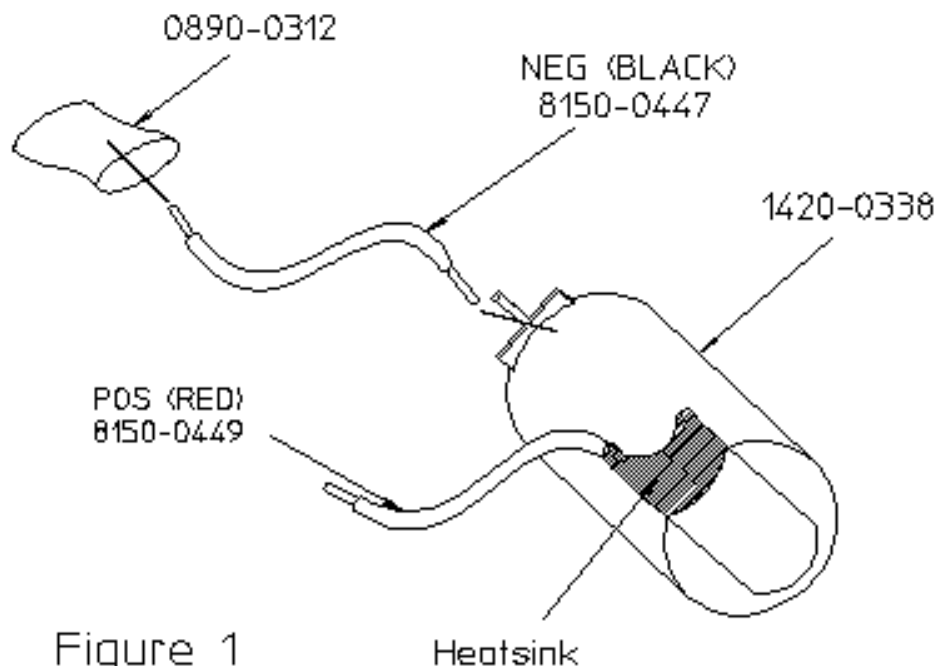
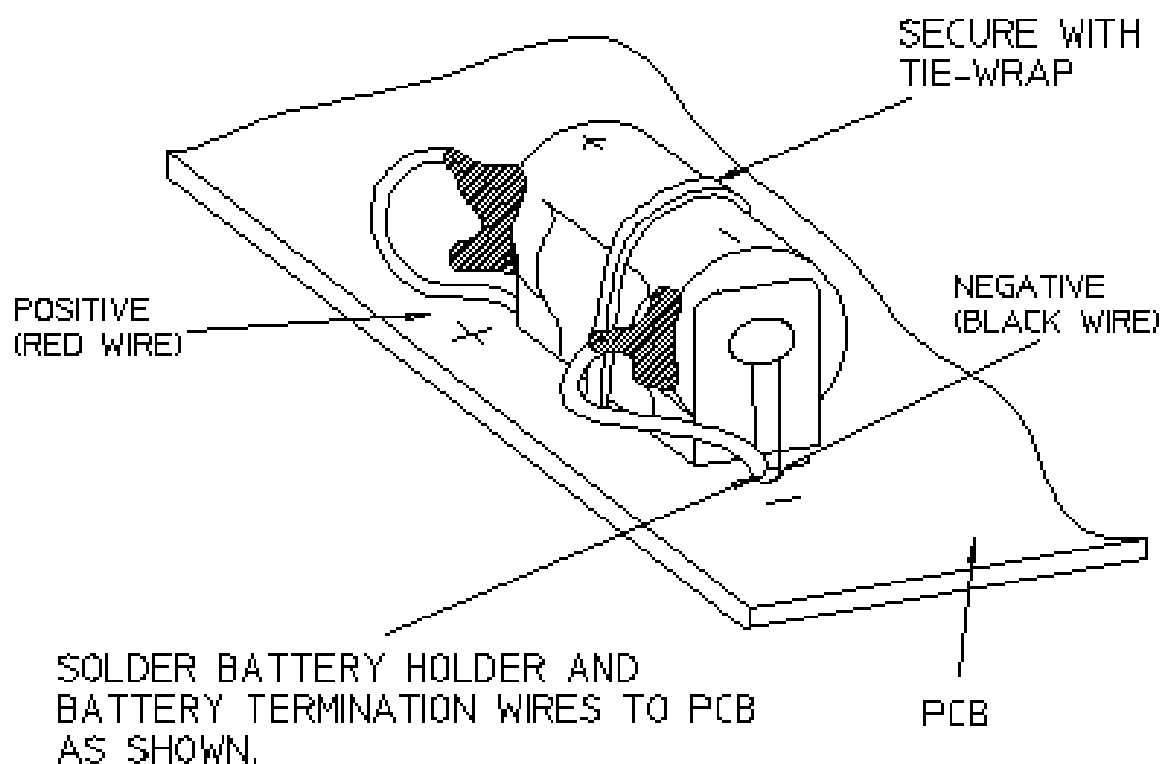

Figure 1
FIGURE 2
Using the procedure included in Figure 1 and Figure 2, replace the battery with solder-in battery and solder the battery leads in the same holes as the battery holder. Once the battery is changed it will be necessary to re-enter the serial number. To re-enter the serial number follow the procedure in the Troubleshooting section of the Service Manual. The serial number should be entered in the format 1234U56789.
As shown in Figure 1 below.
7. SECURE BATTERY IN THE HOLDER, WITH A TIE-WRAP AS SHOWN IN FIGURE 2.